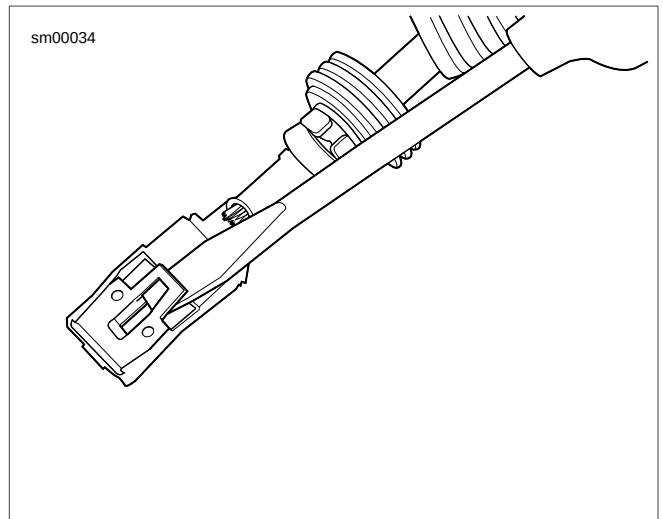

Figure A-32. Delphi Maxi-Fuse Housing: Bend Tang
1. See Figure A-32. Carefully bend tang outward away from the terminal body.